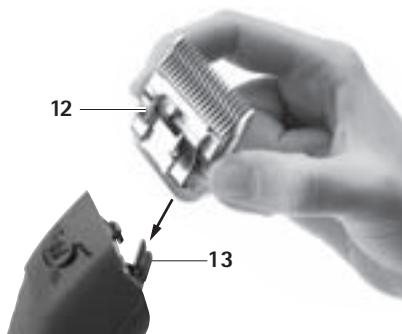

Fig. 2
- Install blade 12 on open knife hinge 13, see Fig. 2.
- Press blade 12 gently in the direction of the clipping machine FAV5, see Fig. 2. The blade 12 engages with an audible click.